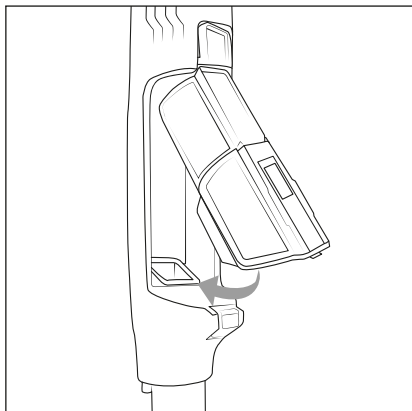

Fig. 21
- 8) First, insert the HEPA filter container **5** and then the dust container **7** into the appliance (see Fig. 21). Make sure that the dust container **7** audibly clicks into place in the appliance.